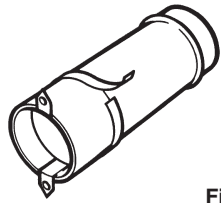

Fig. 72
6. Refit the end piece to the liner and open out to the thickness of the wall. Seal the two pieces together using the tape provided with the kit (Fig 72).